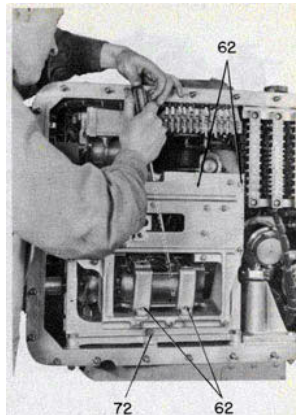

Figure 115-Removal of Back Plate Assembly.
62. Remove the back plate assembly and the sight angle follow-up motor. Test the motor and recheck the assembly for loose taper pins and bent shafts. See figure 115.
72. For Torpedo Director Mk 27 Mods 1, 2 and 3, constructed previous to Mods 4 and 5, the center mounting bolt on the rear of the computer which holds it in place is in an upside-down position. Before removing the mounting bolts it is necessary to remove the back plate assembly of the computer. See figure 115.